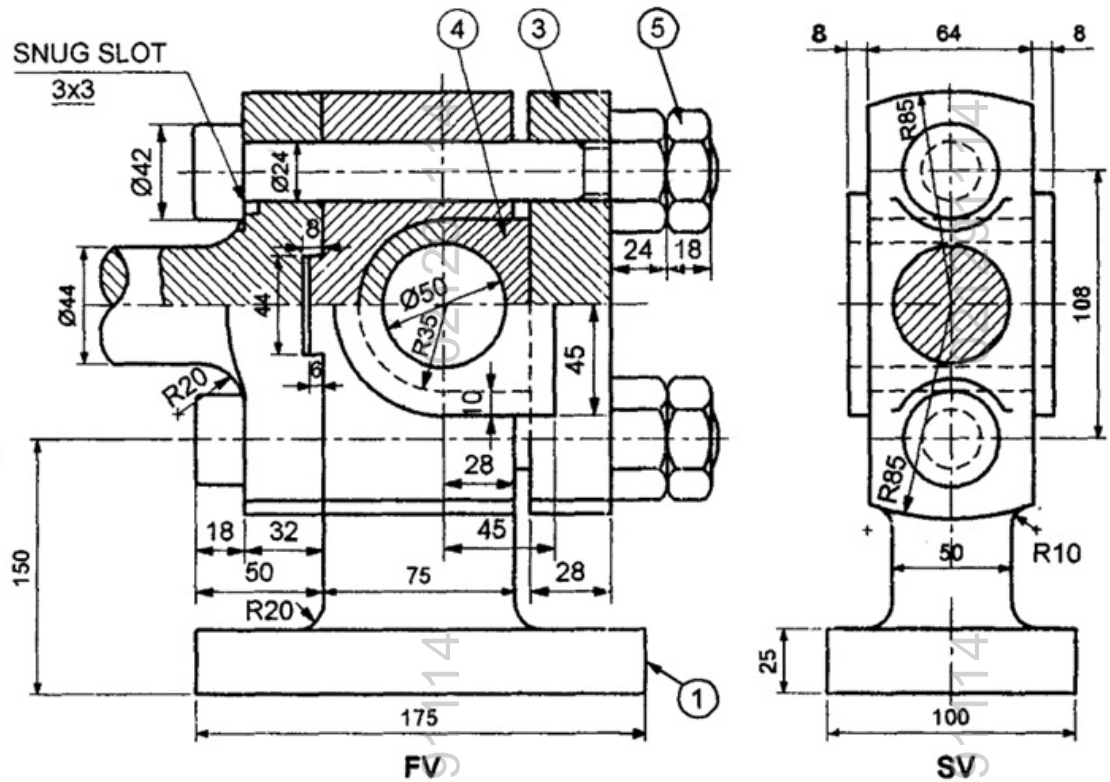

Fig. No. 4
- B) Figure No. 4 Shows the assembly of steam engine crosshead. Draw the half sectional 6